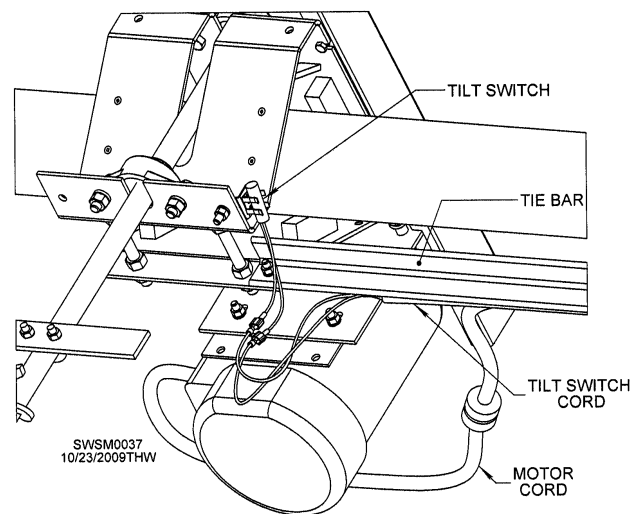

Figure 29 - Bottom, Angle View of Satellite Carriage Tilt Switch Wiring
- Black and white wires with female spades at one end of provided black tilt-switch cord. **Figure 29.**
- 79 Run cords together across tie bar to primary carriage, securing out of way of moving parts using provided black zip ties. **Figure 29.**